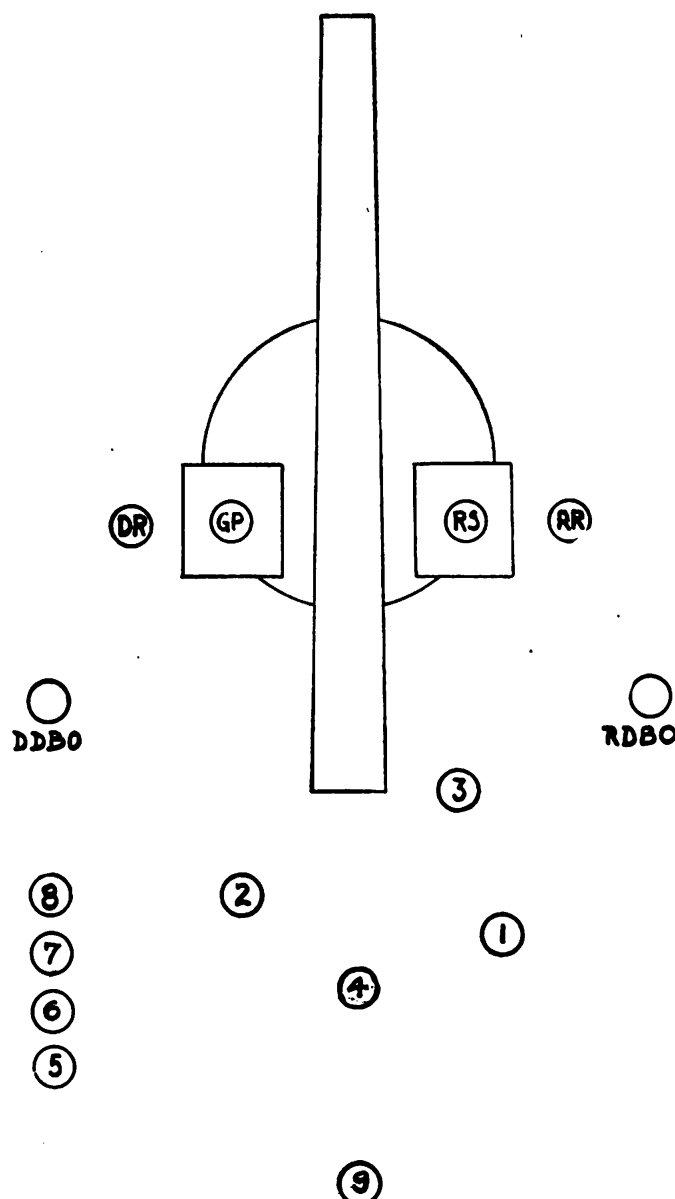

FIGURE 4.—Posts of gun squad for 6-inch gun on barbette carriage.
(3) It is of great importance that No. 3 clean the primer seat and vent after each shot. When the primer sticks it is usually due to powder residue having collected between the primer and the primer seat or vent, or the primer seat having become pitted. A fired primer that has become stuck may be removed by using a drift through the vent, at the same time raising the firing mechanism slide.
Q. What are the posts of the gun squad for the 6-inch gun on the barbette carriage? A. See figure 4.